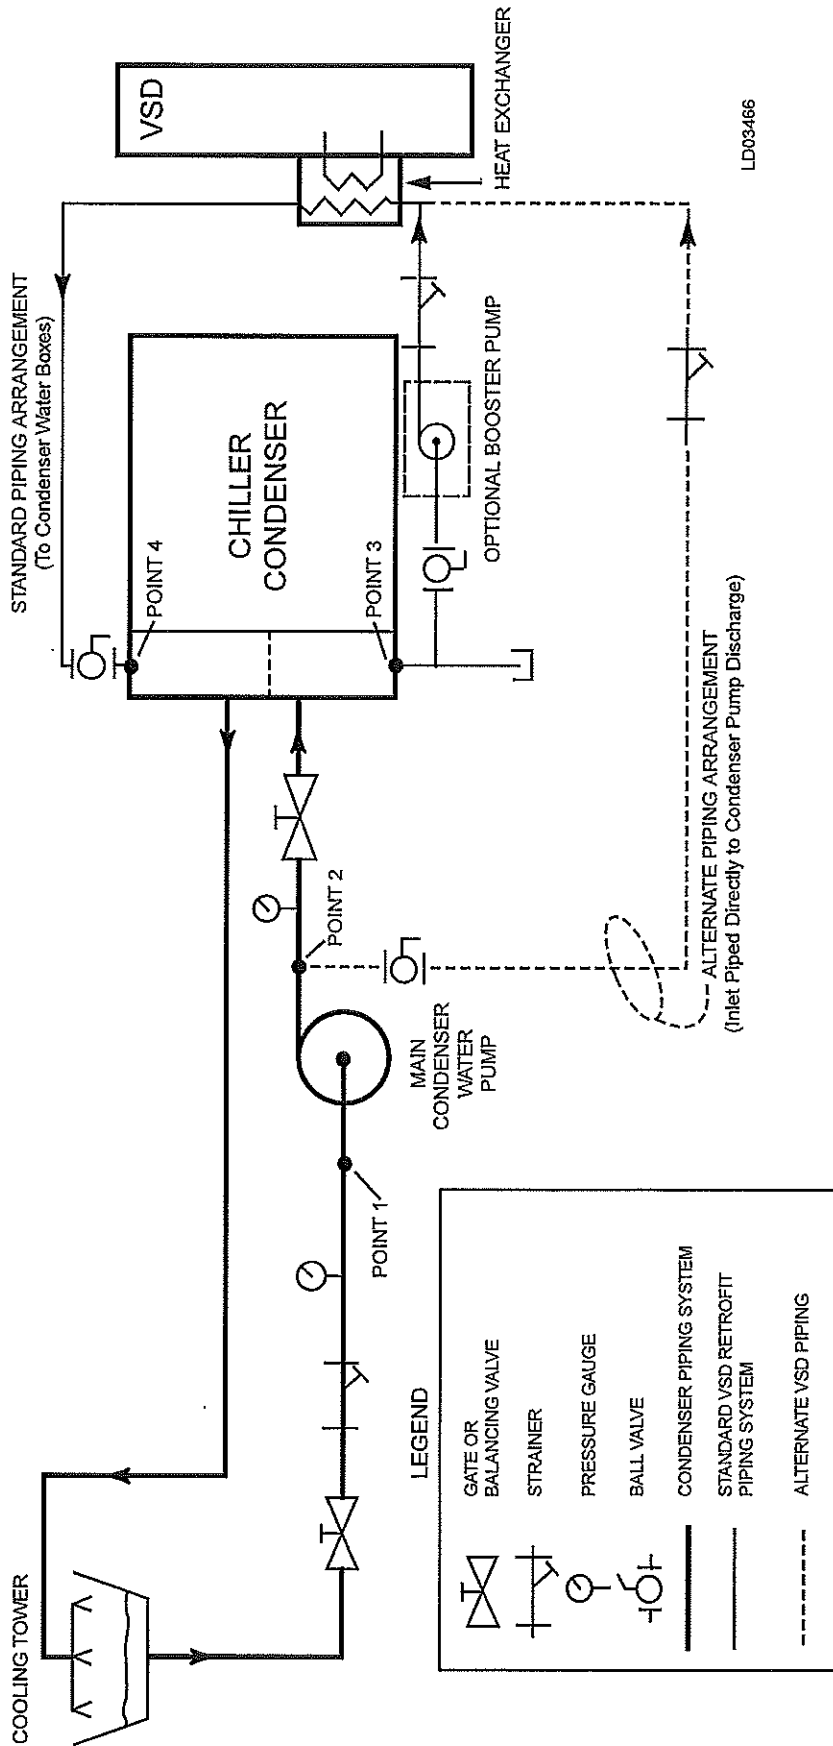

FIG. 4 – CONDENSER LOOP AND VSD PIPING
(Reference Fig. 4)
If it is not practical to connect the cooling piping to a location that provides adequate pressure drop, application of a booster pump should be considered (see Fig. 4). The sum of the available pressure drop at the connecting points and the head produced by the booster pump should meet or exceed the minimum head requirements in table 4 for "local" hose piped systems or graph 1 for "remote" hard piped systems.
**Description** – The pressure readings taken on the job site indicate the following pressures (Reference Fig. 4). Piping from the VSD enclosure to the condenser water box connections will require 100 feet (30.5 m) of pipe.